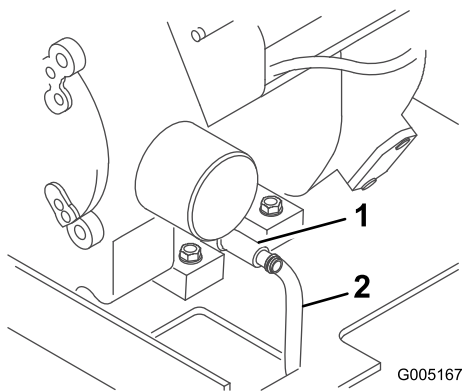

Figure 26
4. Place one end of a hose on the drain valve and the other end in a pan (Figure 26).
5. Open the drain valve by turning it counterclockwise, pulling out as you turn it (Figure 26).